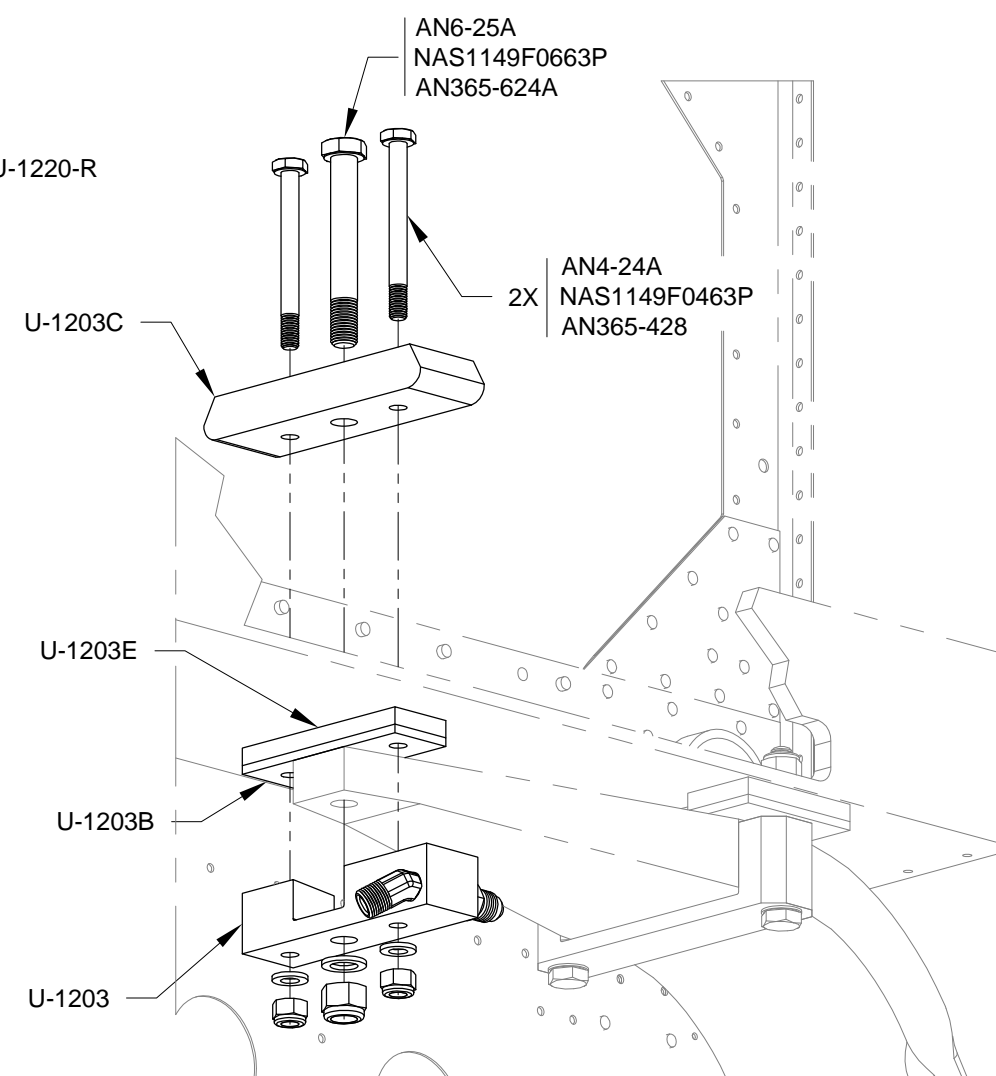

FIGURE 3: GEAR LEG ATTACH INBOARD
Step 5: Install the U-1203B Inboard Wear Plate, U-1203E Inboard Doubler Plate, U-1203 Inboard Main Gear Attach Bracket, and U-1203C Doubler Plate using the hardware called out in Figure 3. Spacers can be used between the floor and the end of the gear leg to position the inboard end of the leg away from the center section.